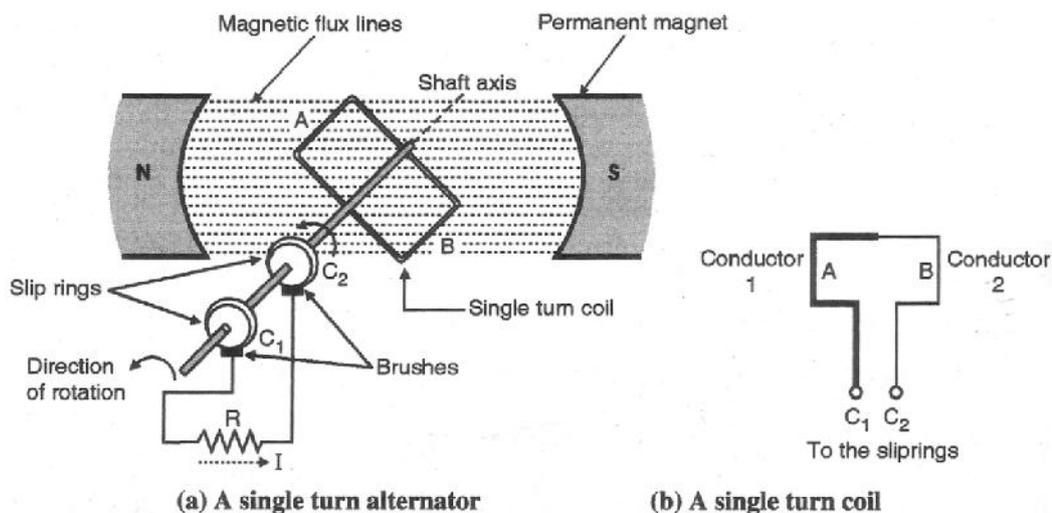

Figure-4
- *The construction of single turn alternator is shown in Figure-4(a). This alternator consists of a permanent magnet with two poles N and S, and a single turn rectangular coil made up of some conducting material (aluminium or copper).*
- *As shown in Figure-4(b) the single turn coil is made from two conductors A and B. These conductors are connected to each other on one end whereas their other ends (C_1 and C_2) are connected to the slip rings mounted on the shaft.*
- Electrical connections are made to the brushes. As shown in Figure-4(a) a resistance R is connected between the two brushes.
- Refer Figure-4(b). This single turn coil is rotated in the anticlockwise direction in the flux produced by the permanent magnet.